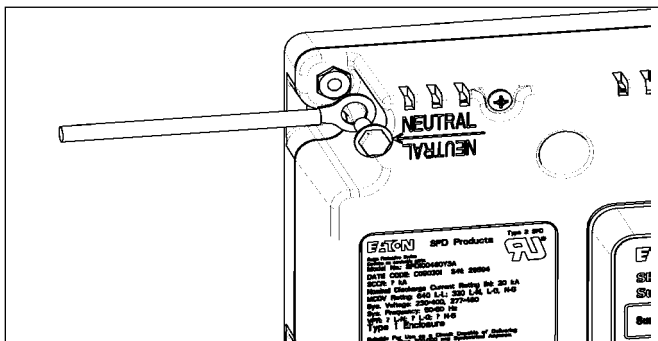

Figure 12. Neutral connection
8. If equipped, connect the system neutral wire (grey or white) to the SPD. Connect the system neutral wire to the SPD's neutral connection using a ring terminal suitable for use with a #10 fastener and a #10-32 x 3/8" fastener (customer supplied). Tighten the neutral connection to 4.1 N·m (36 in-lb). There are two neutral connection points provided on the SPD. Connect only one of them. See Figure 12.
7. If equipped, connect the system neutral wire (grey or white) to the SPD. Connect the system neutral wire to the SPD's neutral connection using a ring terminal suitable for use with a #10 fastener and a #10-32 x 3/8" fastener (customer supplied). Tighten the neutral connection to 4.1 N·m (36 in-lb). There are two neutral connection points provided on the SPD. Connect **only one** of them. See Figure 12.